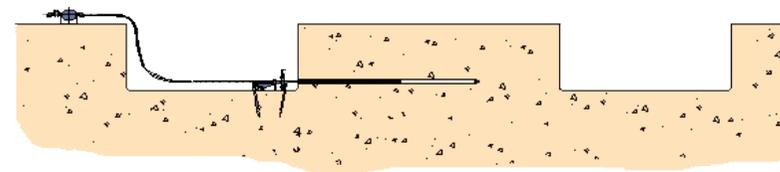

Figure 55 - Launching the impact mole
1. Stand clear of the excavation when launching (see Figure 55).